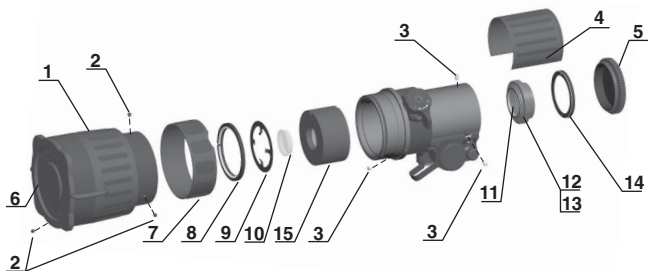

FIGURE 3-6. TUBE REPLACEMENT
- Accurately turn up the edge of rubber ring (Figure 3-6, 7).
- Loosen three fixing screws (Figure 3-6, 2).
- Unscrew and remove the objective lens (Figure 3-6, 1).
- Unscrew and remove the lock ring (Figure 3-6, 7).
- Draw out the spring washer («Glass/GLASS» tube only, Figure 3-6, 9).
- Accurately separate the compensator glass (Figure 3-6, 10) from the tube for second using.
- Install the spring washer («Glass/GLASS» tube only, Figure 3-6, 9).
- Apply small amount of thread locker and screw the locking ring (Figure 3-6, 8a). Do not over tighten it.
- Screw the objective lens (Figure 3-6, 1); put the lens cap (Figure 3-6, 6) on.
- Remove fixing screws (Figure 3-6, 6) one by one, drill dimples through the holes in the housing, apply small amount of thread locker and secure the objective lens with fixing screws.
- Carefully separate the rubber cover (Figure 3-6, 4) from the sight body and remove it.
- Unscrew and remove the lock ring (Figure 3-6, 14).
- Loosen three adjusting screws (Figure 3-6, 3).
- Cut out old sealant and remove output lens assembly (Figure 3-6, 11).
- Replace the output lens assembly (Figure 3-6, 11) and tighten three adjustment screws (Figure 3-6, 3) lightly.
- Screw and tighten lightly the lock ring (Figure 3-6, 14).
- Rotate output lens (Figure 3-6, 11) with focus wrench to achieve parallax free image.
- Looking through the telescope, turn adjustment screws (Figure 3-6, 3) to match image of collimator crosshair with crosshair of the telescope.
- Fill the gap between the output lens assembly (Figure 3-6, 11) and sight body with sealant.
- Screw the lock ring (Figure 3-6, 14) and tight it firmly.
- Put the rubber cover (Figure 3-6, 4) onto the sight body and secure it with glue.